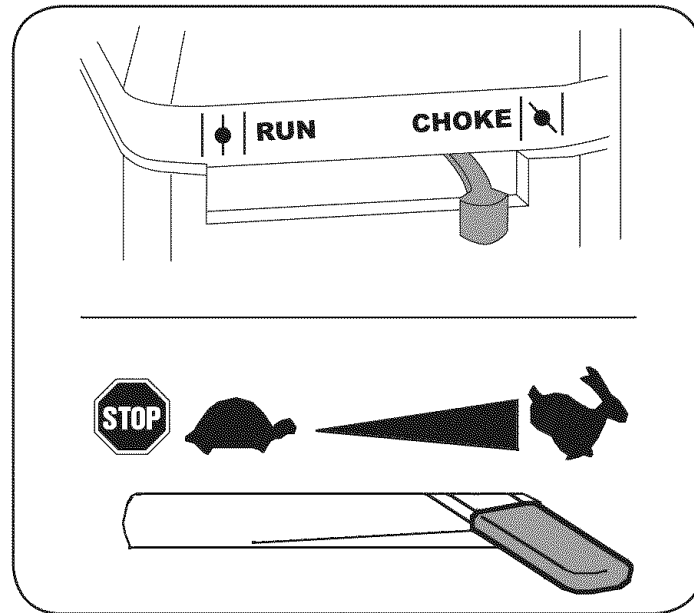

Figure 10
3. Move the choke lever on the engine to CHOKE position.  (A warm engine may not require choking.) See Figure 10.
4. Move throttle control to START/RUN (Rabbit) position.  See Figure 10.
2. With the other hand pull out on the release rod and lower the hopper assembly to the ground. See Figure 10.